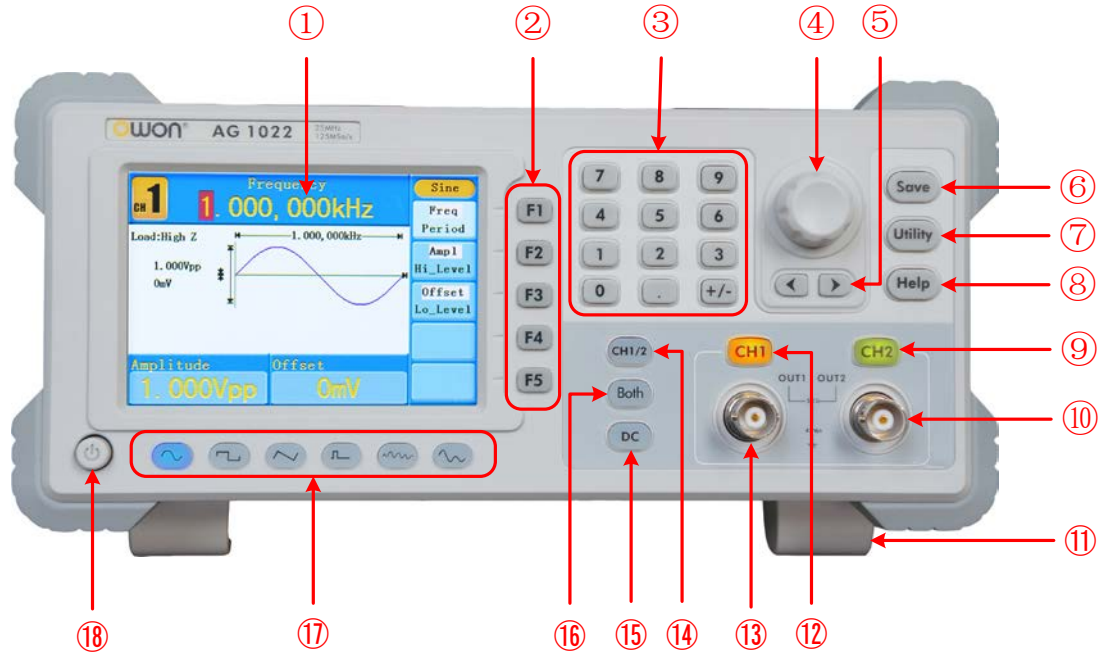

Figure 4-1 Front panel overview
Unfold the foot stools on the bottom of the generator, as ① in *Figure 4-1*.